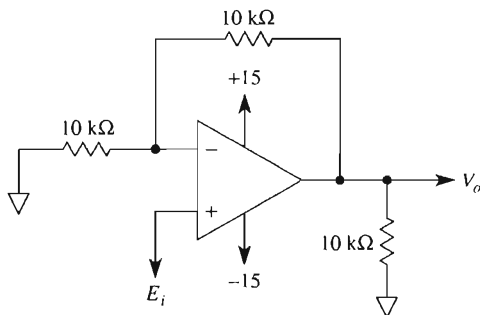

FIGURE P3-9
- 3-9. Identify the circuit in Fig. P3-9 and calculate V_o if E_i equals (a) $+5$ V; (b) -2 V. Compare your results with Problem 3-5.
- 3-10. Repeat Problem 3-7 except apply it to Fig. P3-9. Compare solutions of both problems to distinguish between inverting and noninverting operation.